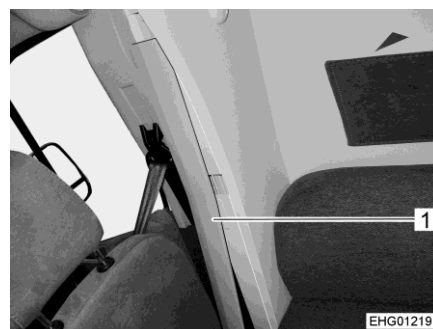

Fig. 131 Panelling B column (Ford)
The fuse holder is mounted onto the connection wall. To replace a fuse, the panelling (Fig. 131,1) B-column has to be removed.
- Remove the panelling of the B-column (Fig. 131,1). To do so, release the Velcro and remove the screw connections.